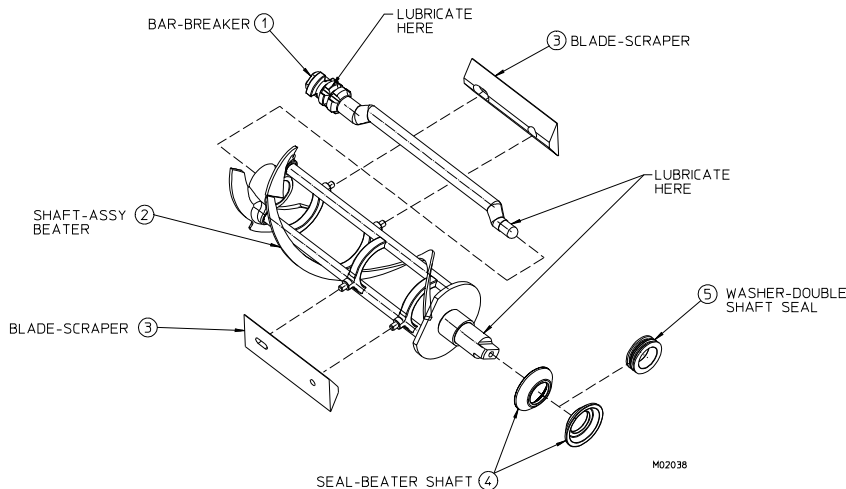

Figure 9-2 Assemble beater shaft assembly
3. Apply a moderate amount of approved sanitary lubricant (such as Petrol Gel) to the beater shaft as shown in figure 9-2. Install the shaft seal over the rear of the beater shaft, (figure 9-2). Do not allow any lubricant to come in contact with the bell-shaped rubber portions of the shaft seal.
6. Slide the breaker bar into the center of the beater shaft, making sure the bar fits into the hole in the rear beater shaft disc (figure 9-2).